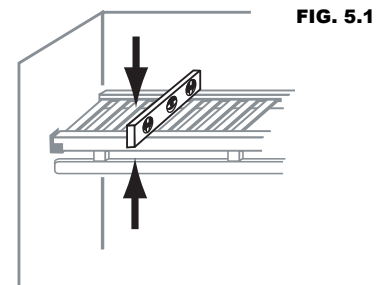

FIG. 5.1
- Level shelf (front to back - Fig. 5.1)